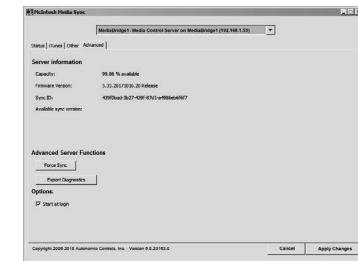

Figure 65
14. Referring to figure 65, select the “Advanced Tab” which has “Server Information”, “Advanced Server Functions” and “Options”.